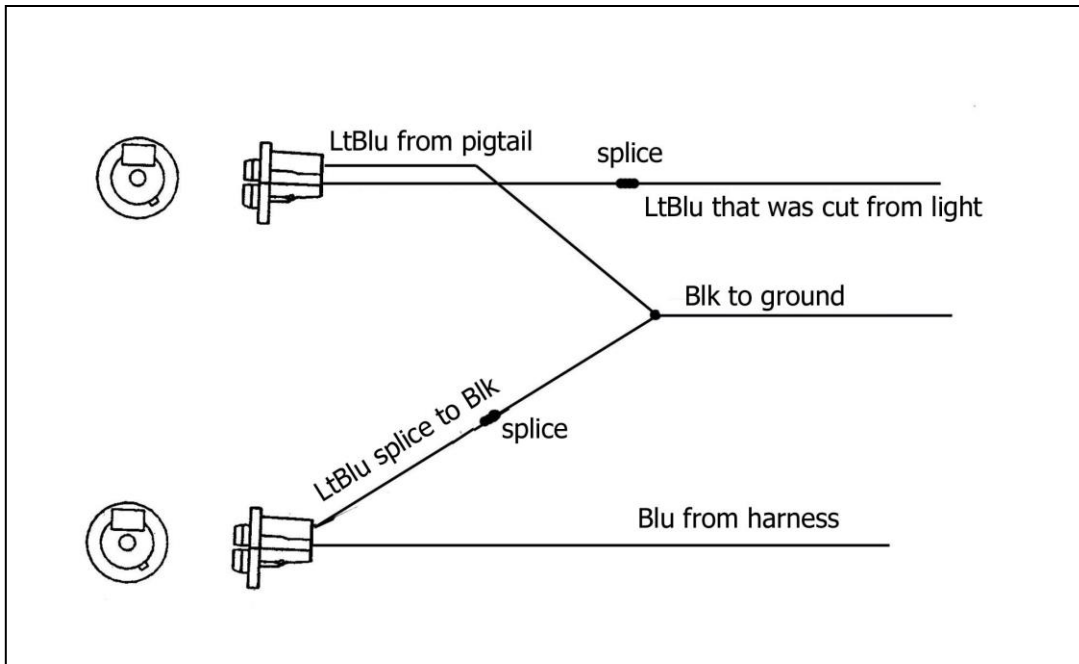

Figure 7.18C Turn Signal Diagram
- 7.14.9 Dual Turn Signal Indicator Lights –** The light socket labeled **(TURN)** will be used here. First, cut the Light Blue wire off this socket. **(Leave enough wire length on the socket to crimp another wire to it).** Take the extra turn signal light pigtail included in the kit and splice this Light Blue wire to the harness side of the Light Blue wire you just cut. Splice the loose Black wire on the extra turn signal light pigtail to the socket side of the Light Blue wire you cut. Install the extra turn signal light socket into the Left Turn Indicator slot. The light socket labeled **(TURN)** will be installed in the Right Turn Indicator slot. Refer to **Figure 7.18C.**